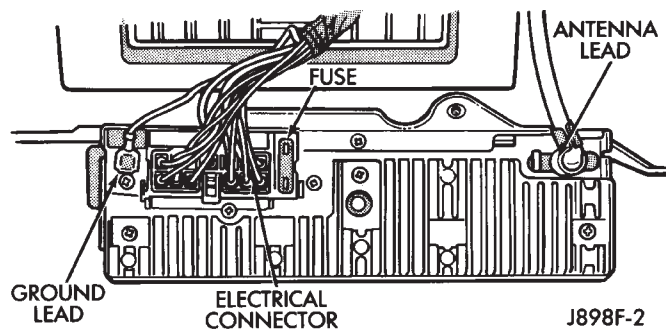

Fig. 3 Radio Wiring Harness
- (4) Disconnect the radio electrical connector, ground lead and antenna lead (Fig. 3).